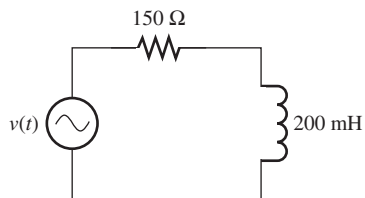

FIGURE P6.32 Circuit for Problem 6.32.
6.32 (B) Find the steady-state expression of the current for the circuit in Figure P6.32 if the voltage source is $v(t) = 12 \cos(120t)$.